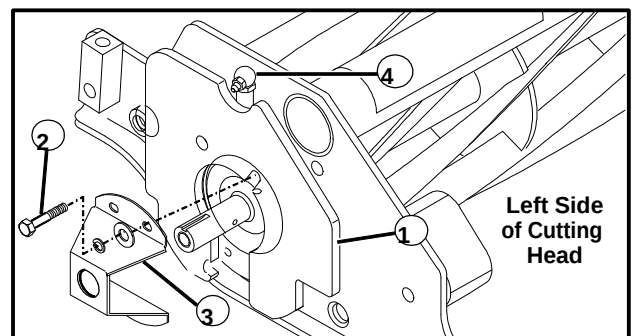

Figure 10
3. The balancing weight attachment hardware is shipped with the power unit and located in the tool box above the left front wheel. Locate two (2) 5/16-18 x 2 screws and the four tapped holes on the left end of the cutting head.
4. While facing the left end of the cutting head (with grease fitting located at the top) position shaft cover and loosely install two 5/16-18 x 2 screws in upper right and lower left tapped holes (See Fig. 10). Leave enough space between the shaft cover and the cutting head to slide in seven weights.